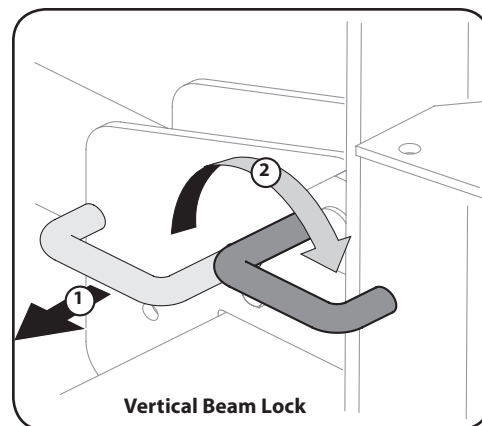

Figure 4-2
- b. To lock the beam in the vertical position, pull out on the vertical beam lock and rotate it to secure the beam. See Figure 4-2.